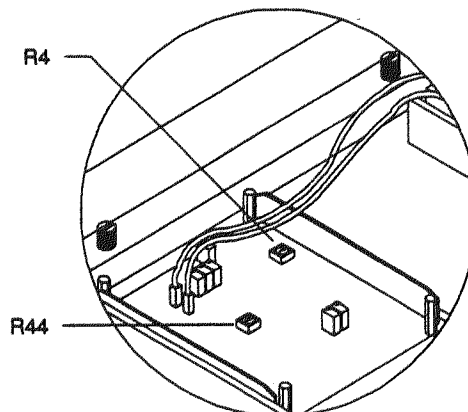

FIGURE 10-23. Registration/Focus phasing.
- ❑ Remove the four (4) phillips screws securing the shield covering the PLL board and locate R4 and R44, see Figure 10-23, (PLL board is a smaller assembly of the Registration board and is located in the lower left corner of this assembly, as viewed from the rear when table mounted).
- STEP 1. While observing the projected image, adjust R4 (Figure 10-23) until a upward bow is produced in the red horizontal center line on the right side of the image, then adjust R4 in the opposite direction until the bow or curvature is minimized on the left and right sides of the projected image.
- STEP 2. Adjust R44 (Figure 10-23) on the registration PLL board so that the line is of equal thickness from left to right.